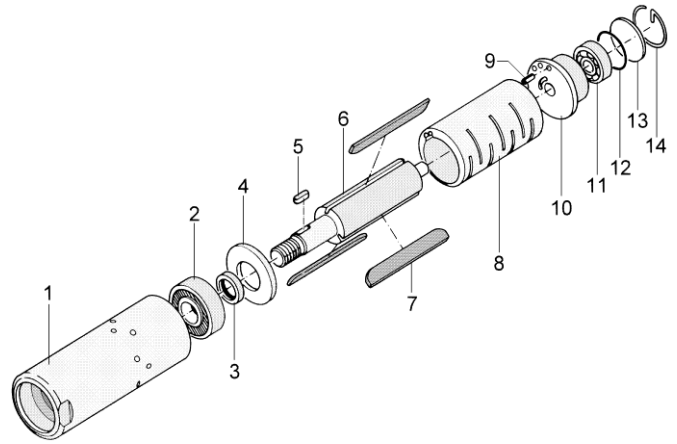

Figure 4
6.4 PIPECOATER-I Air Motor71106 (see Figure 4)